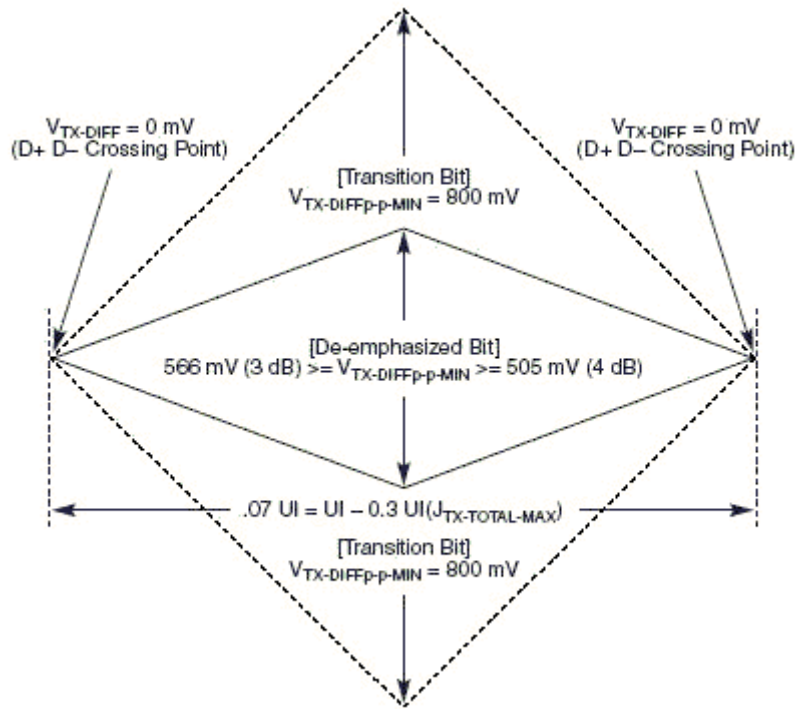
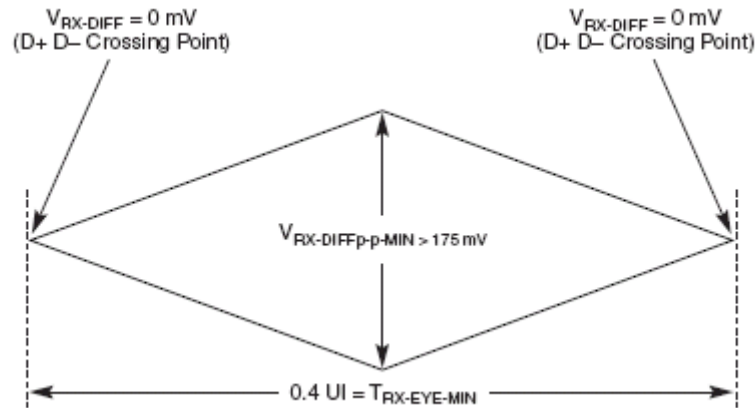
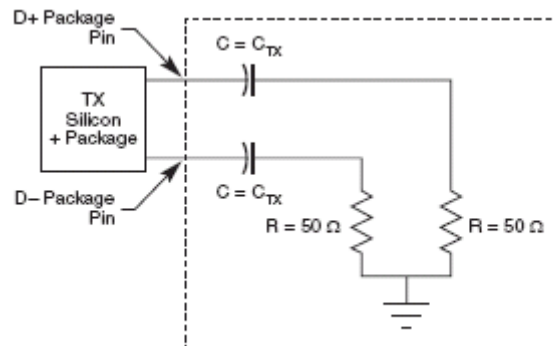

Figure 41. Minimum Transmitter Timing and Voltage Output Compliance Specifications
Figure 42. Minimum Receiver Eye Timing and Voltage Compliance Specification
Figure 43. Compliance Test/Measurement Load
- 2.) Specified at the measurement point into a timing and voltage compliance test load as shown in Figure 43 and measured over any 250 consecutive TX UIs. (Also refer to the transmitter compliance eye diagram shown in Figure 41.)
- 4.) The transmitter input impedance shall result in a differential return loss greater than or equal to 12 dB and a common mode return loss greater than or equal to 6 dB over a frequency range of 50 MHz to 1.25 GHz. This input impedance requirement applies to all valid input levels. The reference impedance for return loss measurements is 50 Ω to ground for both the D+ and D- line (that is, as measured by a vector network analyzer with 50- Ω probes—see Figure 43). Note that the series capacitors C_{TX} is optional for the return loss measurement.
- 5.) Measured between 20–80% at transmitter package pins into a test load as shown in Figure 43 for both V_{TX-D+} and V_{TX-D-} .
The TX eye diagram in Figure 41 is specified using the passive compliance/test measurement load (see Figure 43) in place of any real PCI Express interconnect + RX component.
- 2.) Specified at the measurement point and measured over any 250 consecutive UIs. The test load in Figure 43 should be used as the RX device when taking measurements (also refer to the receiver compliance eye diagram shown in Figure 42). If the clocks to the RX and TX are not derived from the same reference clock, the TX UI recovered from 3500 consecutive UI must be used as a reference for the eye diagram.
- 4.) The receiver input impedance shall result in a differential return loss greater than or equal to 15 dB with the D+ line biased to 300 mV and the D– line biased to –300 mV and a common mode return loss greater than or equal to 6 dB (no bias required) over a frequency range of 50 MHz to 1.25 GHz. This input impedance requirement applies to all valid input levels. The reference impedance for return loss measurements for is 50 Ω to ground for both the D+ and D– line (that is, as measured by a Vector Network Analyzer with 50- Ω probes—see Figure 43). Note that the series capacitors CTX is optional for the return loss measurement.
The RX eye diagram in Figure 42 is specified using the passive compliance/test measurement load (see Figure 43) in place of any real PCI Express RX component.
Note: In general, the minimum receiver eye diagram measured with the compliance/test measurement load (see Figure 43) will be larger than the minimum receiver eye diagram measured over a range of systems at the input receiver of any real PCI Express component. The degraded eye diagram at the input receiver is due to traces internal to the package as well as silicon parasitic characteristics which cause the real PCI Express component to vary in impedance from the compliance/test measurement load. The input receiver eye diagram is implementation specific and is not specified. RX component designer should provide additional margin to adequately compensate for the degraded minimum receiver eye diagram (shown in Figure 42) expected at the input receiver based on some adequate combination of system simulations and the return loss measured looking into the RX package and silicon. The RX eye diagram must be aligned in time using the jitter median to locate the center of the eye diagram.
The reference impedance for return loss measurements is $50\ \Omega$ to ground for both the D+ and D– line (i.e., as measured by a vector network analyzer with $50\text{-}\Omega$ probes—see Figure 43). Note that the series capacitors, CTX, are optional for the return loss measurement.
The AC timing and voltage parameters must be verified at the measurement point, as specified within 0.2 inches of the package pins, into a test/measurement load shown in Figure 43.